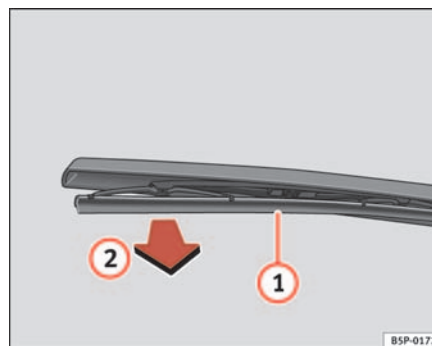

Fig. 167 Changing the rear window wiper blade
- Lift the wiper arm away from the glass ⇒ fig. 167.
- Unclip the wiper blade **1** and pull **2** ⇒ fig. 167.